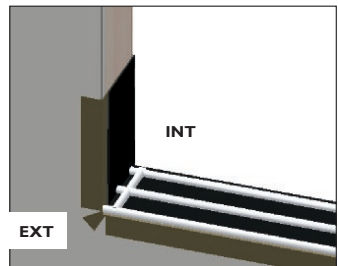

FIG. 18
- Apply a 1/4" continuous bead of silicone 1/2" from each side of the rough opening. The bead will run the entire depth of the jamb starting at the face of the wall. (Fig. 18)